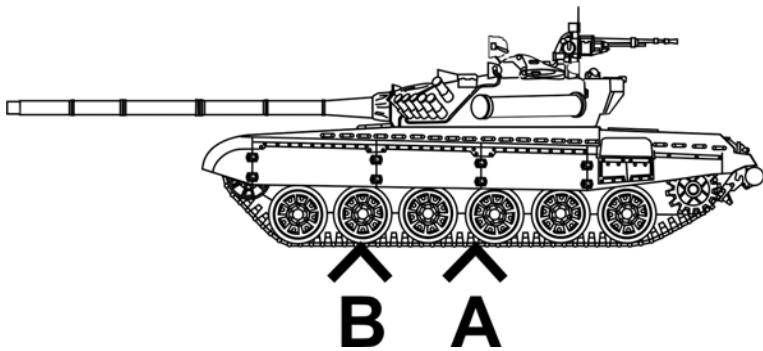

Figure 2-19: Point of Aim, Low Profile Target
18. For low profile and hull down (partially obscured) targets, point of aim is still based on the visible mass of the hull. To reduce errors due to the thickness of the crosshairs, the bottom of the crosshairs should be placed at the base of the target (see Figures 2-19 and 2-20). **Essentially, it is better to aim low than high.**